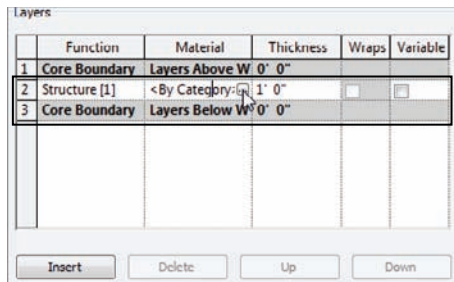

FIGURE 6.6 By clicking in the Material cell within the Structure row, you can access the Materials dialog box.
1. You will see that the Structure row is divided into columns. Click in the Material column within the Structure row, as shown in Figure 6.6.